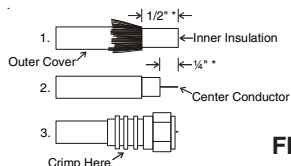

FIGURE 5
STEP 5. Install connectors on download and set 2 cable as shown in Figure 5. Attach download cable to jack on wallplate/amplifier marked antenna as shown in Figure 4. Attach cable going to set 2 outlet to jack on power supply marked SET 2. Attach cable coming from cable input to jack on power supply marked CABLE.